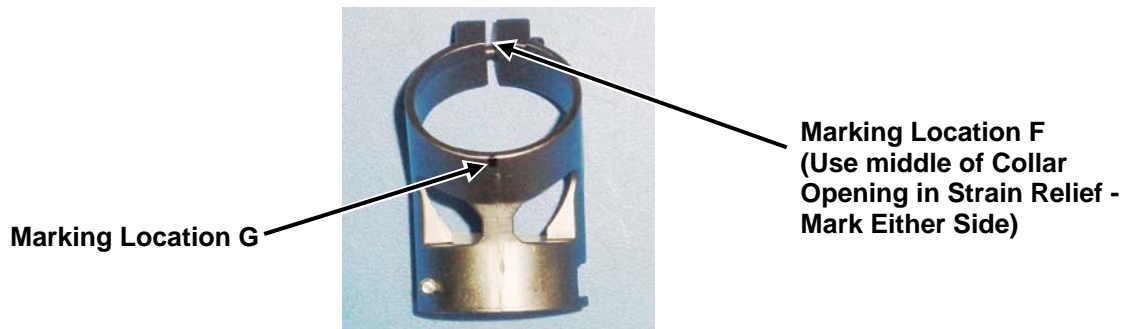

Figure 3. Aluminum Strain Relief Markings
5. Mark the aluminum spin lock strain relief at the clamp opening (either side), as mark F on upper surface, and as mark G, on lower surface, using mold marks as the reference point. See Figure 3 and Table 1.